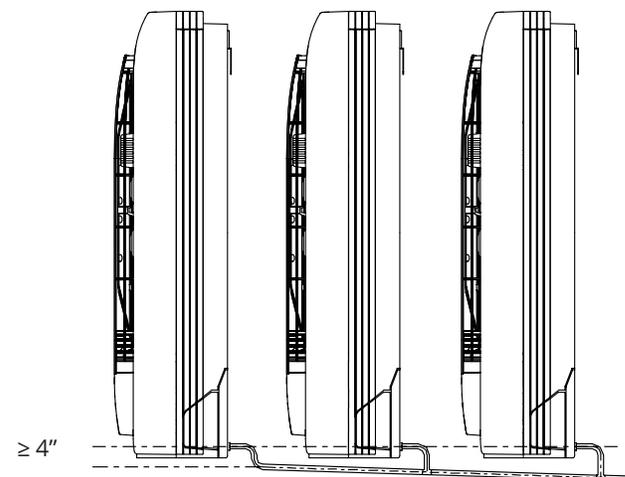

Fig. 5.3
**NOTE:** When connecting multiple drainpipes, install the pipes as illustrated in Fig 5.3.